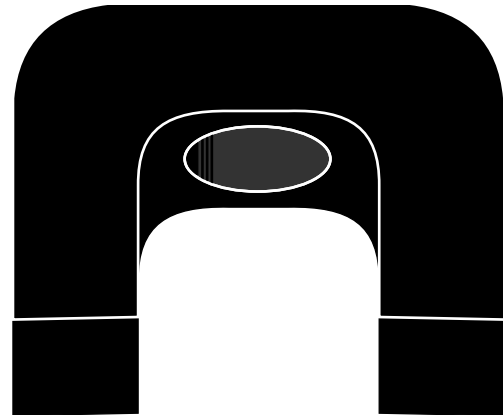

Figure 3
**CORRECTION:** Anytime wheels are rotated, tires changed, balanced or tire pressures are incorrect, the system must be reprogrammed. To reprogram, either a capable scan tool is required or the keyless entry key fob along with a magnet, which is Kent-Moore Tool J-41760 as shown in Figure 3, is needed to accomplish a manual reprogramming.